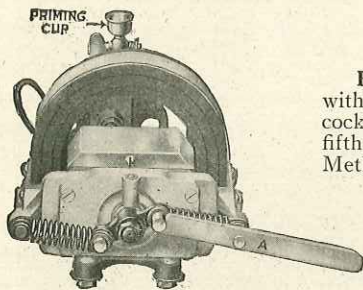

Figure 11.
**Fifth.** Cock the springs on magneto with tripping lever "A," as shown in Figure 11.
**Third.** Place the tripping lever "A" (Figure 11, page 28) on the magneto and cock the springs as shown.